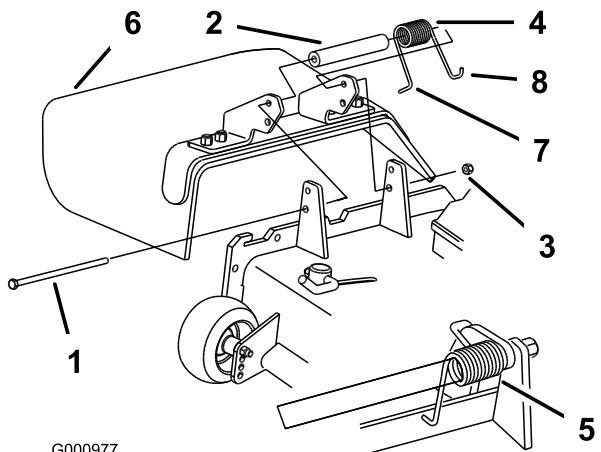

Figure 1
3. Remove the locknut, bolt, spring and spacer holding the deflector to the pivot brackets (Figure 1). Remove the grass deflector.